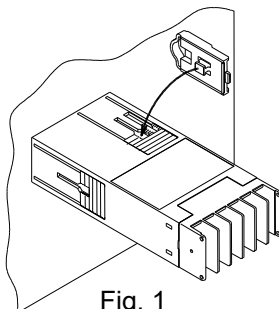

Fig. 1
3. Insert the mounting bracket into the mounting groove of the instrument. (Fig. 1)